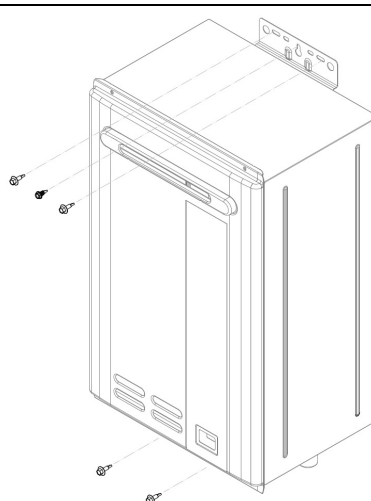

Figure 4
4. Unscrew the CFWH units from the frame mountings. Three screws at top and two at bottom of CFWH units (refer to **Figure 4**).